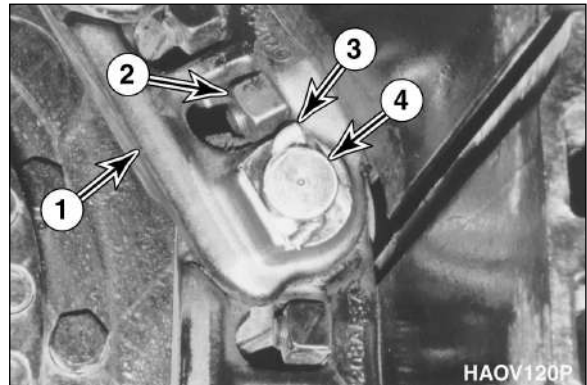

Figure 15
3. Move machine until master link (1, Figure 15) is positioned at approximately 10 o'clock from top position on travel reduction gearbox.
4. Remove four nuts and bolts (2, Figure 15) holding shoe to link. Remove enough shoes to make access to lock pin easier.
**NOTE:** Support track shoes with blocking so that when master pin (4, Figure 15) is removed track will not fall.
5. Straighten lock pin (3, Figure 15) and remove it from master pin (4). Discard lock pin.